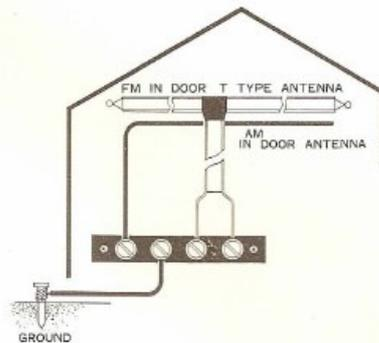

Fig. 6
- * Employ the T-type indoor antenna accessory to the receiver when using the receiver within a wooden building near the FM radio station. Connect the end of the vertical section of the T-type antenna to the FM ANTENNA TERMINALS (25) as shown in Fig. 6, and expand the horizontal section of the T-type antenna. While actually receiving broadcast, determine the direction of the horizontal section for the best radio reception and fix it on a wall or other place. Refer to the article "RECEPTION OF FM BROADCAST" regarding the determination of the antenna direction.